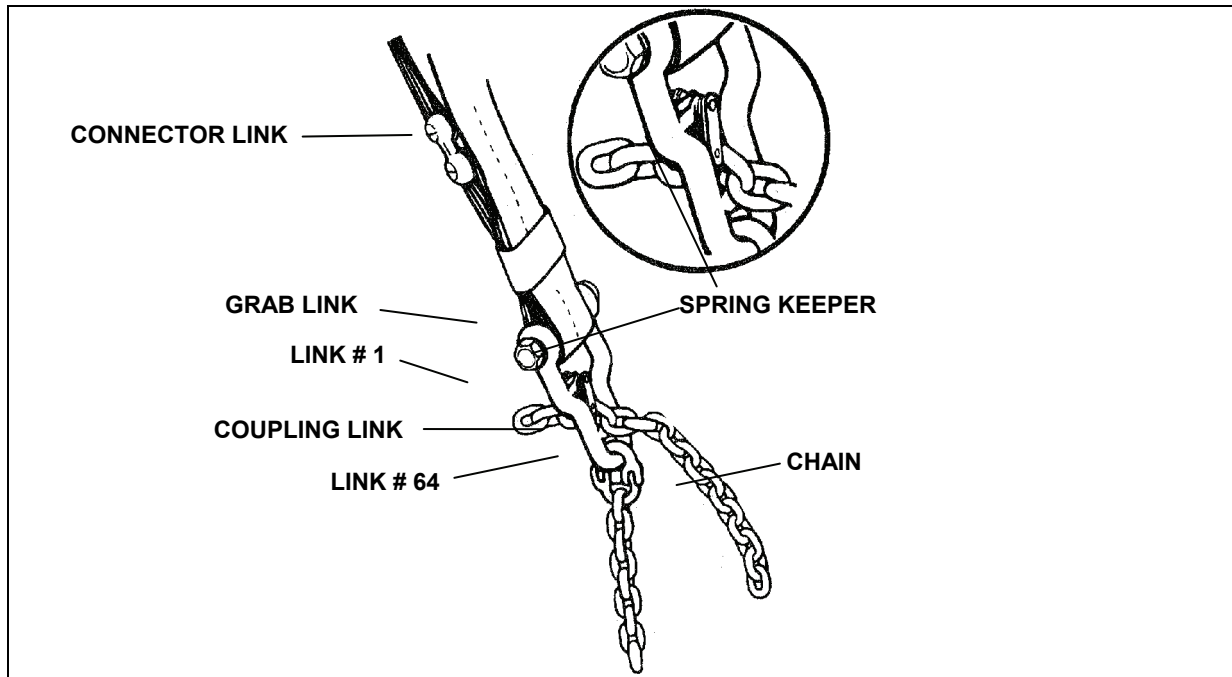

Figure 6-25. Grab Link with Spring Keeper
- **Grab Link Assembly.** The next item on the sling set, the metal grab link, is attached to the lower end of the nylon web sling leg. This grab link is equipped with a spring-loaded keeper as shown in the inset of Figure 6-25. At the lower end of the grab link you will see the coupling link that is used to connect the chain leg to the grab link.